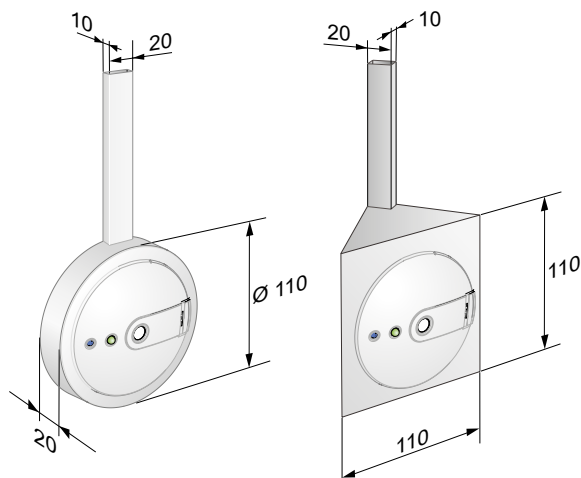

Figure 2. Detect SME, dimensions for wall mounted and corner mounted types. See separate installation guide for installation instructions.
- DETECT SME, complete presence detector (figure 2), installed according to separate instructions included at delivery of DETECT SME.